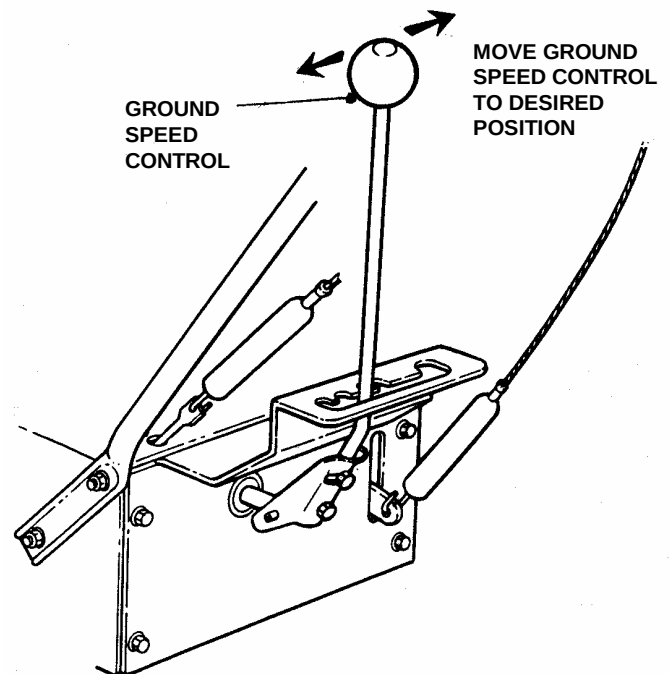

FIGURE 2.5
1. Move ground speed control to the desired speed position. See Figure 2.5.
- IMPORTANT:** This snow thrower has four forward speeds and one reverse speed. Refer to Figure 2.5.
1. Move ground speed control to the desired speed position. Refer to Figure 2.5.